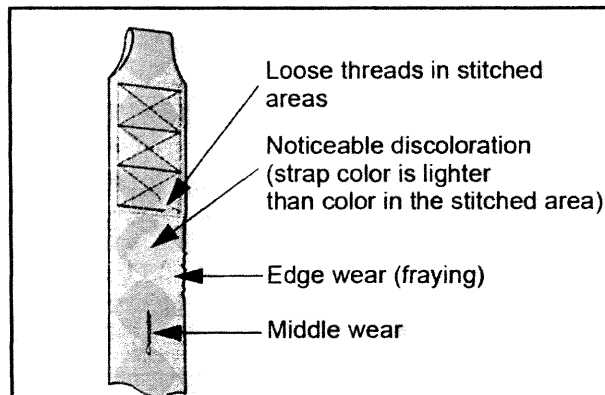

Fig. 22
- 2) Look for any signs of wear or discoloration (see Fig. 22).